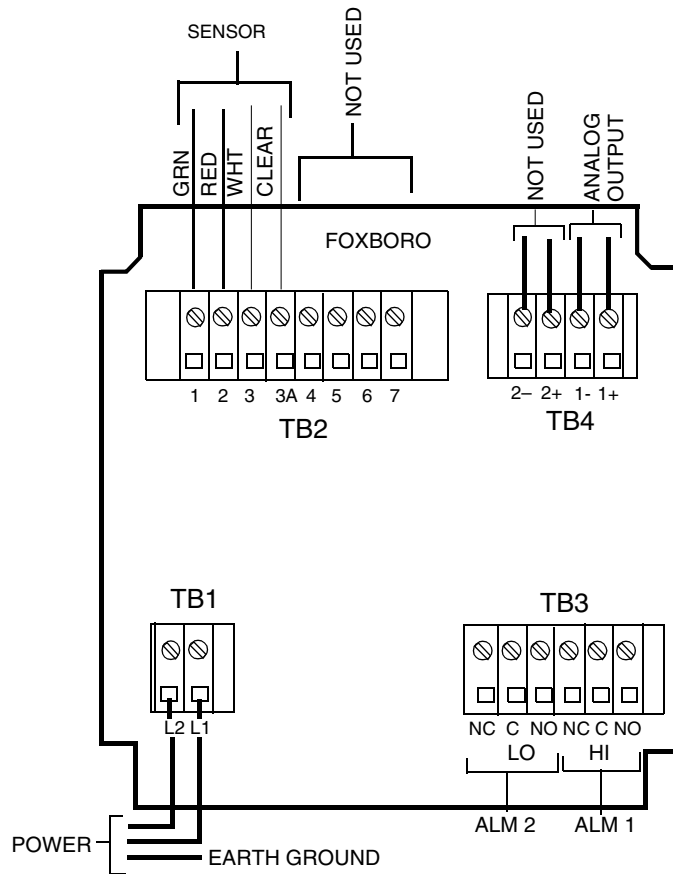

Figure 2. Rear Panel Wiring - Metal Version
2. Connect ALM 1 and ALM 2 Alarm wires to terminal block TB3 as shown in Figure 2. Failsafe operation requires connections to be made between contacts NC and C. For details see “Wiring of Alarms” on page 21.
4. Connect sensor wires to analyzer terminal block TB2 as shown in Figure 2.
5. Connect power wires to terminal block TB1 as indicated in Figure 2. The earth (ground) connection from the power cord should be connected to the stud located in the bottom of the case.